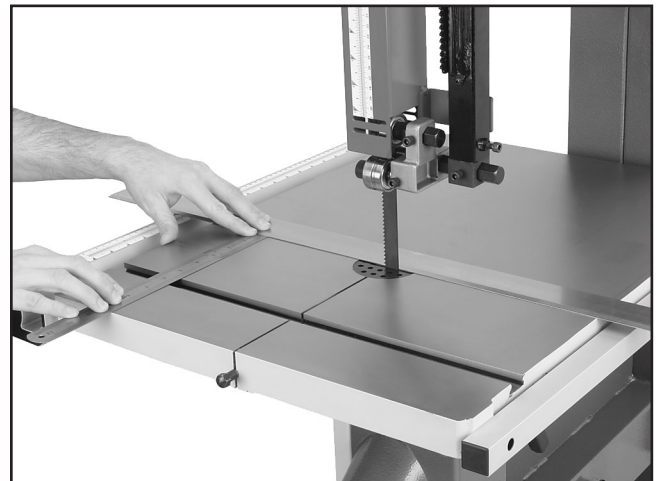

Figure 34. Measuring for miter slot to be parallel with blade.
5. Use a fine ruler to gauge the distance between the straightedge and the miter slot. The distance you measure should be the same at both the front and the back of the table (see **Figure 34**).